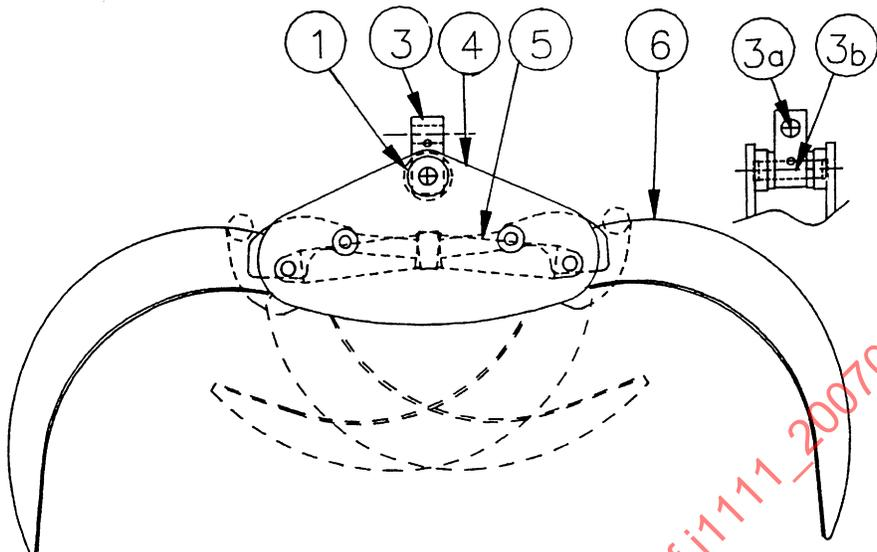

FIGURE 3—DUAL CYLINDER CRADLE GRAPPLE
3.1.3 DUAL CYLINDER CRADLE (FIGURE 3)—Grapple arm cylinders are enclosed and each operates the grapple arm on the opposite side (left or right) of the grapple head.